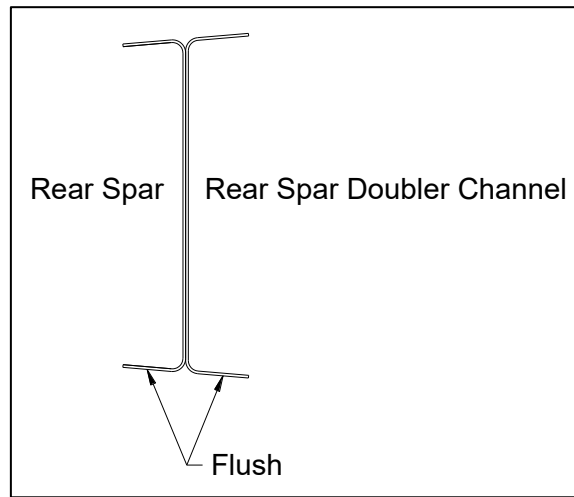

Figure 9: Spar Doubler Alignment
- 13.6.3 Ensure the lower flanges of both rear spars (GA8-551021-015) and the lower flange of the new rear spar doubler (GA8-950075-025) are flush as shown in Figure 9.